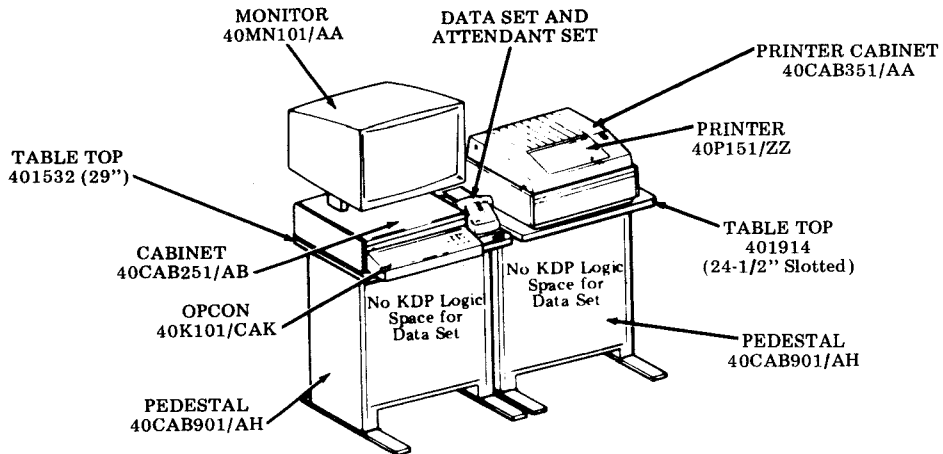

Fig. 9
3.08 Keyboard Display Printer (KDP) Station With Tractor Feed Printer on Its Own Pedestal (Fig. 9)